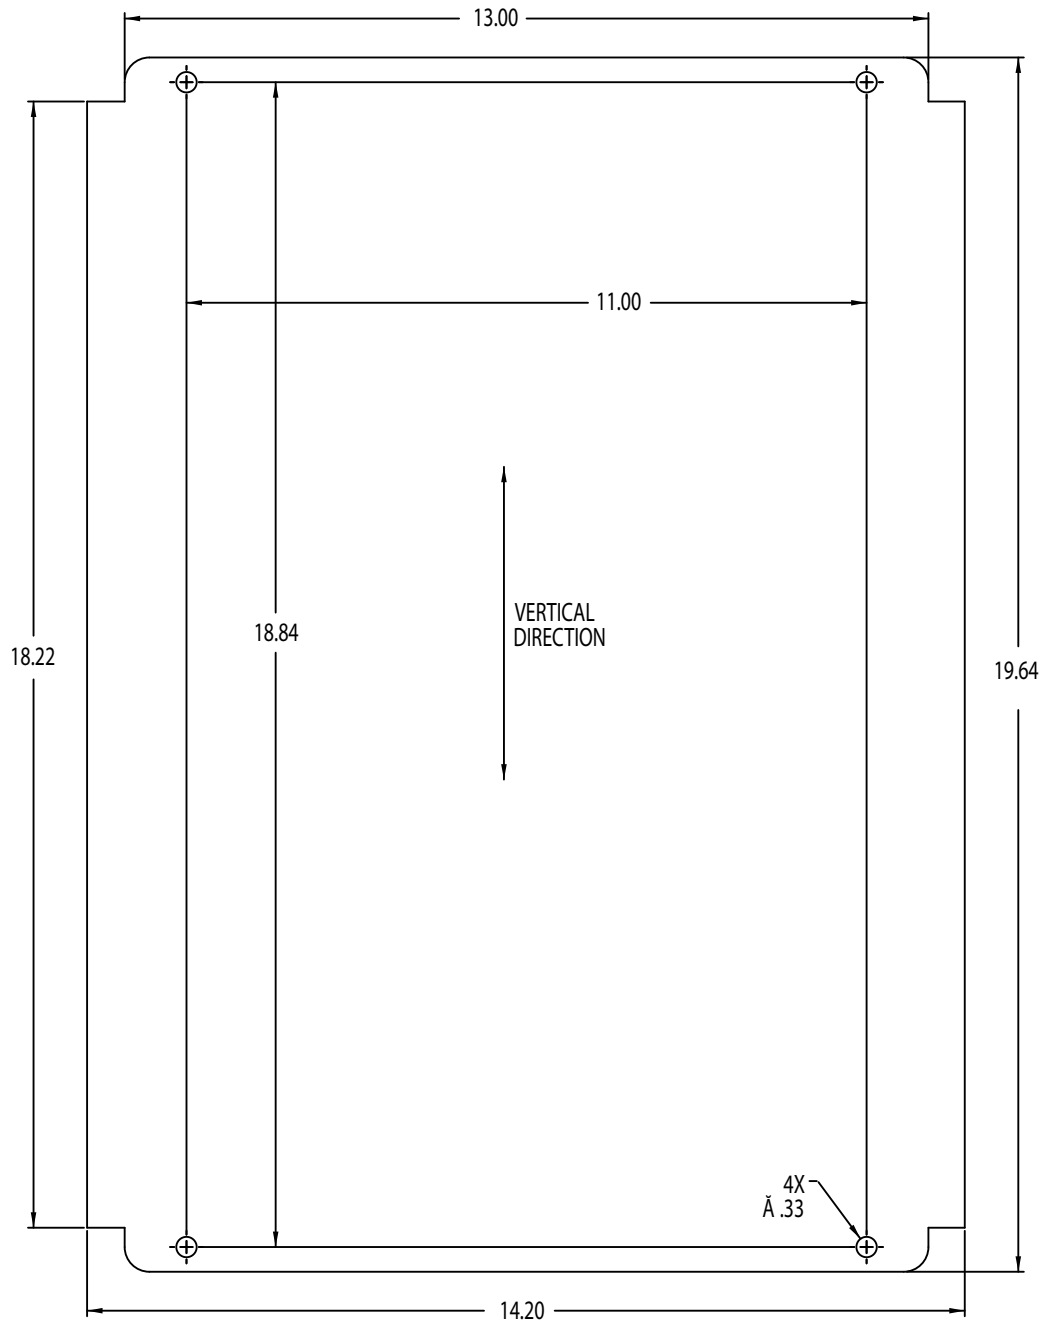

Figure 2-14. Wall Mount Dimensions
1. Using the wall mount as a template, mark the screw locations. See Figure 2-14 for dimensions.
*This illustration is not to scale. It is for illustration purposes only. Use the dimensions in Figure 2-14 to mark the holes for the wall mount. Do Not use Figure 2-14 as a template.*